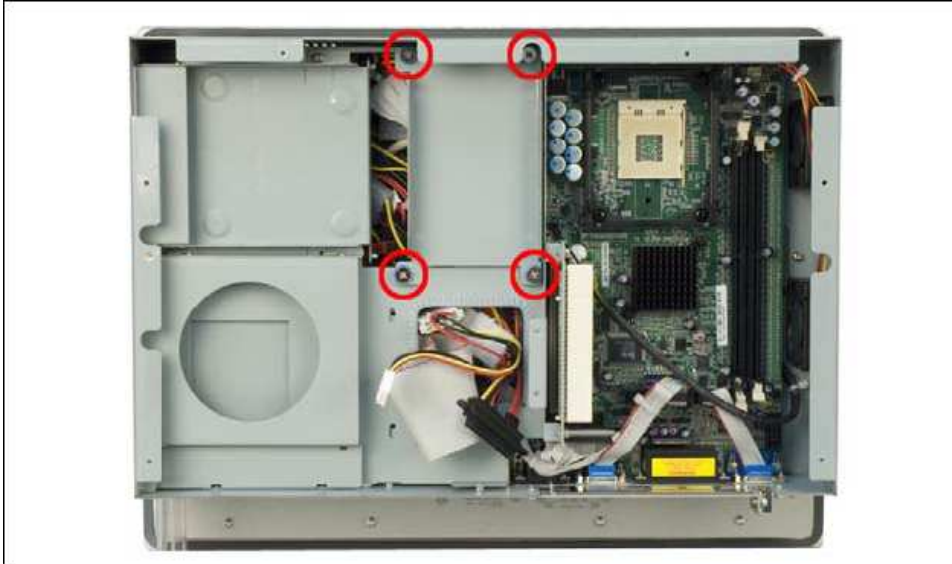

Figure 3-2: HDD Retention Screws
Step 2: The HDD bracket is attached to the elevated platform by four retention screws. Remove the four retention screws from the elevated platform. (See **Figure 3-2**)